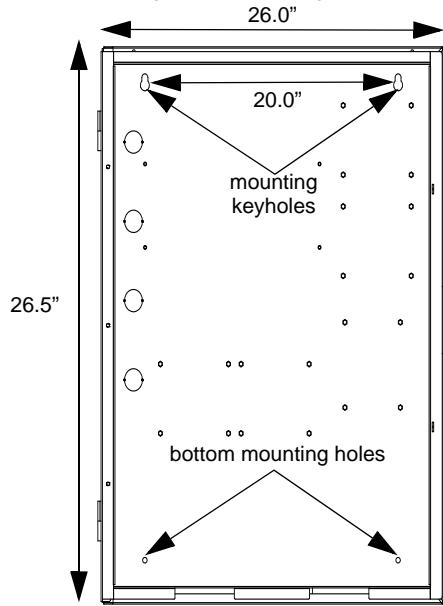

Figure 3 Cabinet Mounting Holes
1. Mark and pre-drill the holes in the wall for the center top keyhole mounting bolts using the dimensions in Figure 3.